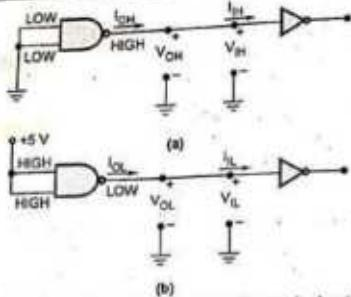

Fig. 3.2.1 Currents and voltages in the two logic states
**Note** The current directions shown in the Fig. 3.2.1 may be opposite to those shown depending on the logic family.